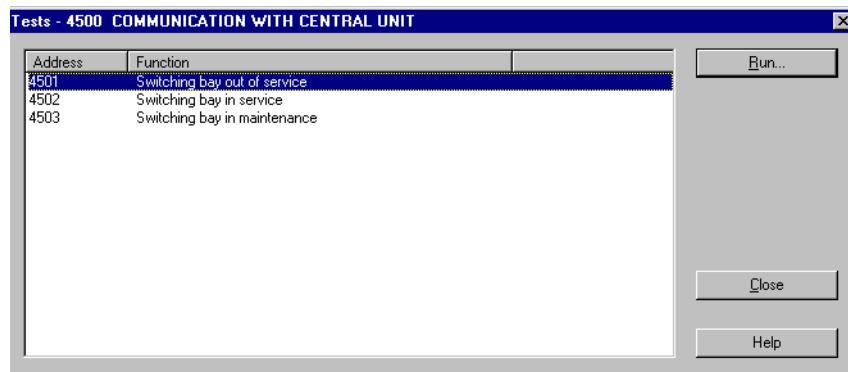

Figure 6-31 Window Test - 4500 COMMUNICATION WITH CENTRAL UNIT
The window "Test - 4500 COMMUNICATION WITH CENTRAL UNIT" opens (Figure 6-31, page 246).
- ❑ Click the entry **COMMUNICATION WITH CENTRAL UNIT** and then click **Run....** The window Test - 4500 COMMUNICATION WITH CENTRAL UNIT opens (Figure 6-31, page 246).